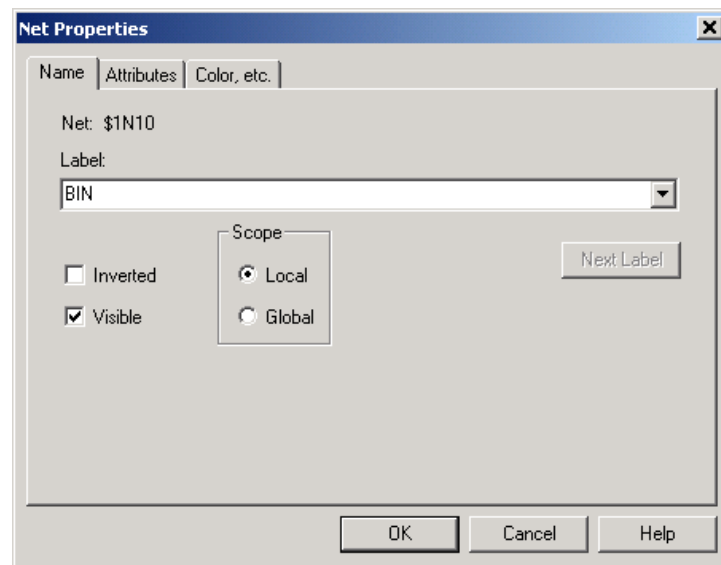

Figure 6. Viewdraw's Net Properties dialog box.
6. **Add I/O names to your design.** Double click in net/bus of the schematic drawing to bring up the Net Properties window (Figure 6).